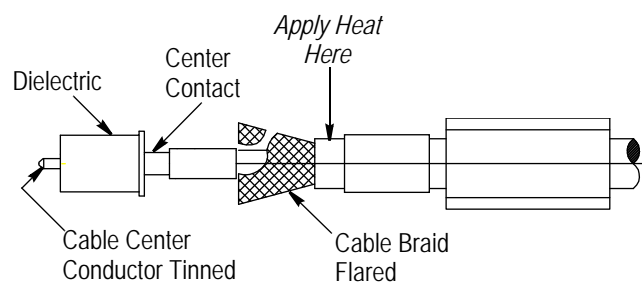

Figure 3
- Assemble the dielectric onto the center contact as shown in Figure 3.